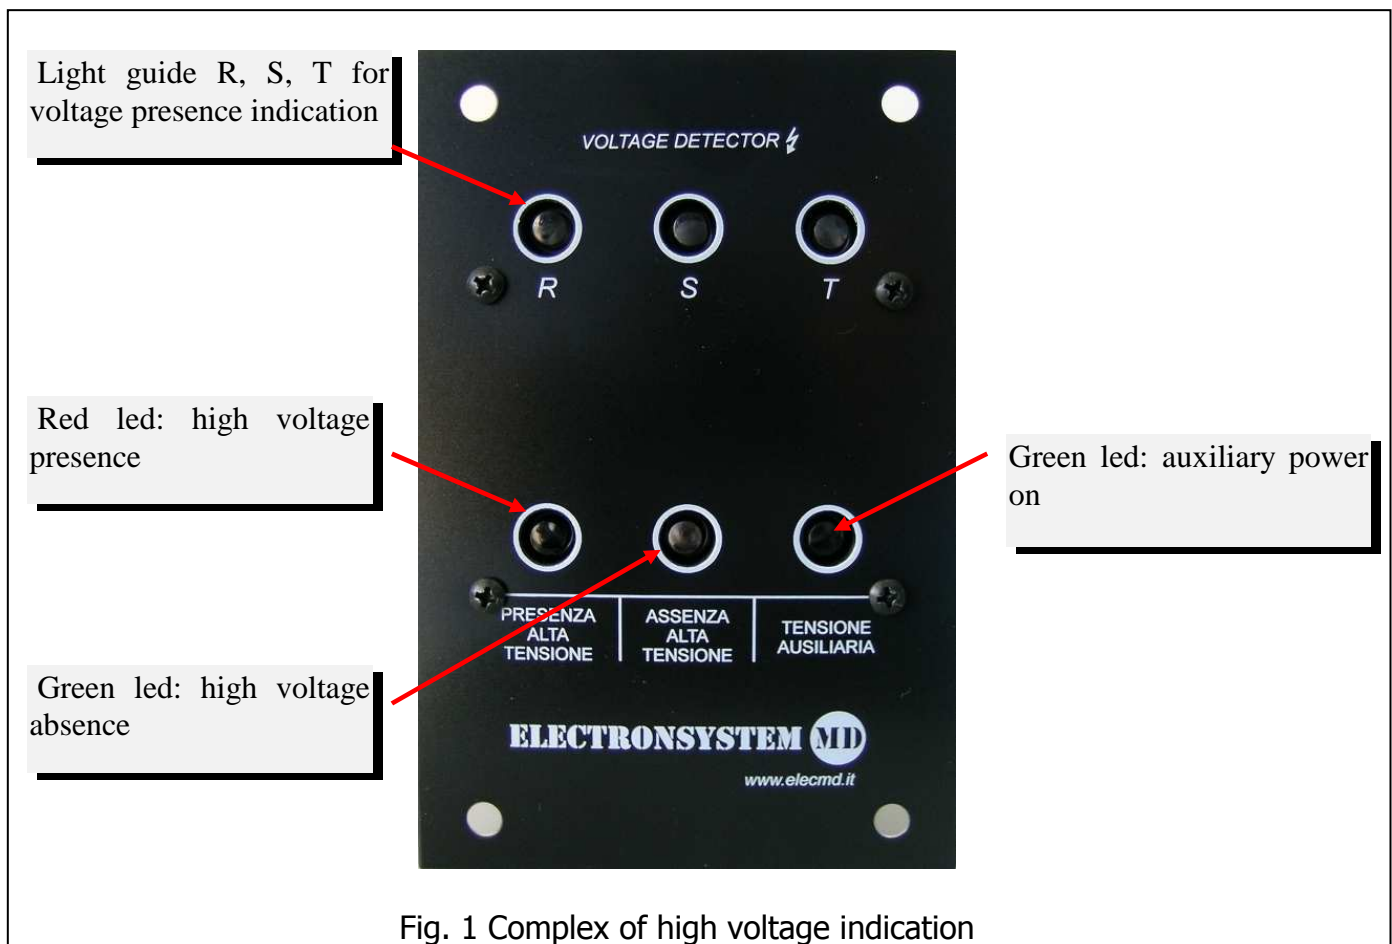

Fig. 1 Complex of high voltage indication
HVD3/RC/DI gives single local phase indication by flashing light (Fig. 1) to monitor if each phase is on high voltage or not. This indication appear even with no auxiliary voltage.
1. Control that each light guide of phase R, S, and T of HVD3/RC/DI are flashing (Fig. 1); if one of the phases is not flashing jump at point 7).